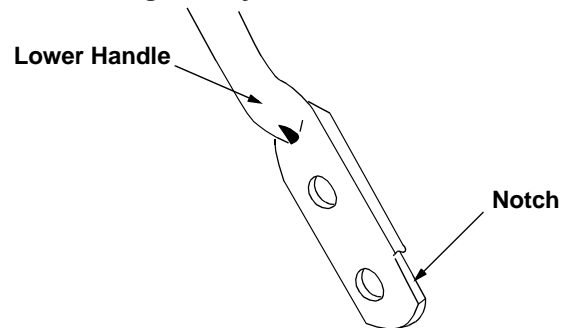

Figure 11
- Depress the lever towards wheel and move the wheel and lever assembly to desired position. Refer to Figure 11.
- Turn the lower handle around so the notch on the bottom of the lower handle is facing forward as shown in Figure 11. Reassemble, placing the bottom holes in the handle over the weld pins in the handle mounting bracket.